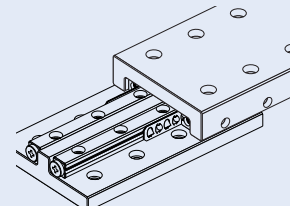

Fig. 17.4
- Slide the table on the base. Do not apply any offset load to the rack gear and the pinion gear and do not deform the cage. Check and make sure the rack gear is over the end of the way. If the rack gear is over the end of the way, gently push the rack gear into the way while moving the table at a little stroke. (See Fig.17.4)